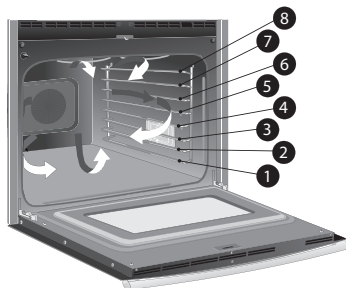
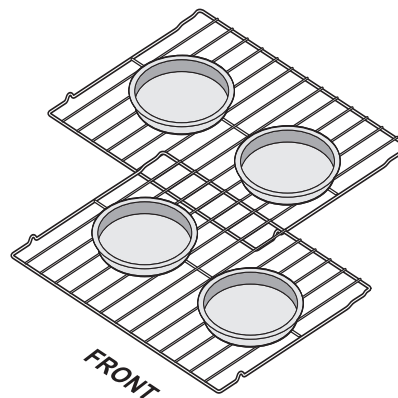

Figure 16: Rack positions and convection air flow
Figure 17: Suggested pan spacing
Convection bake uses a fan to circulate the oven heat throughout the oven cavity (Figure 16). The improved heat distribution allows for even cooking results.
- When using two racks for layer cakes, use glide rack in rack positions 5 (or flat rack in position 6) and glide rack in position 1 (or flat rack in position 2) (Figure 16) and position cookware as shown in Figure 17.